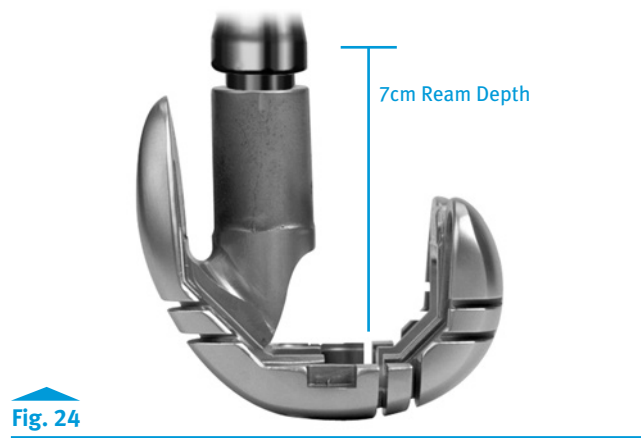

Fig. 24
- If the last reamer used is less than 18mm, ream the first 7cm of the canal from the jointline to a diameter of 18mm to accommodate the stem base of the RH Knee Femoral Component and the stem extension shoulder (Fig. 24).